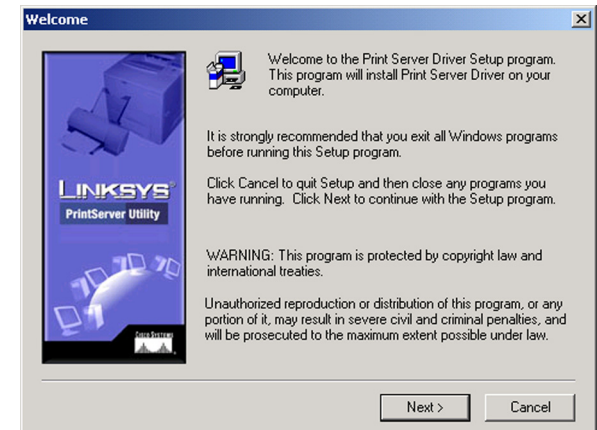

Figure 5-2: Driver's Welcome
3. The Welcome screen of the driver installation program, Figure 5-2, will appear first. You will need to close any other programs you have open before you continue. Click **Cancel** to quit the setup program, then close the open programs. Click **Next** to continue with the driver installation.